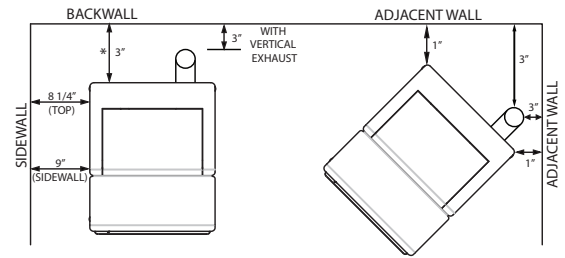

FIGURE 1
1. Position stove, adhering to clearances shown in Figures 1 & 2.
5. Position the stove, adhering to the clearances in Figures 1 & 2.